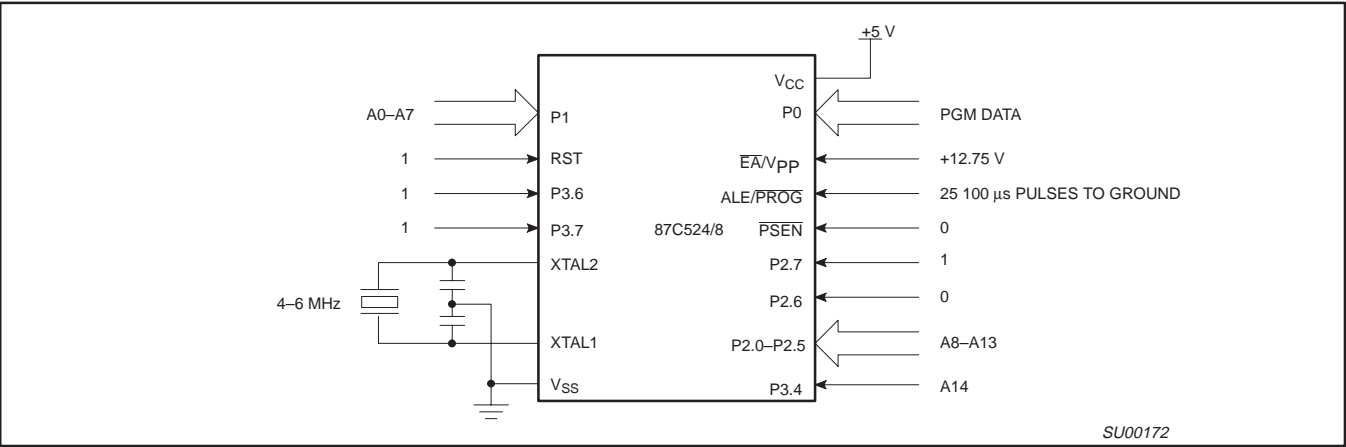
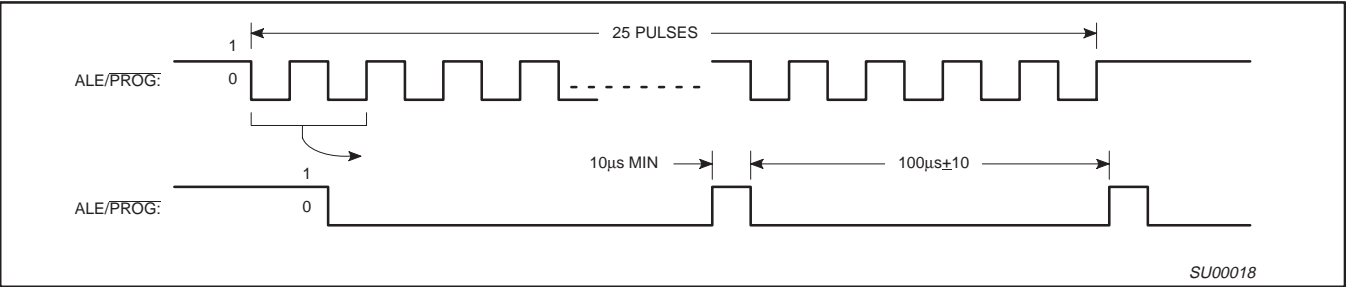
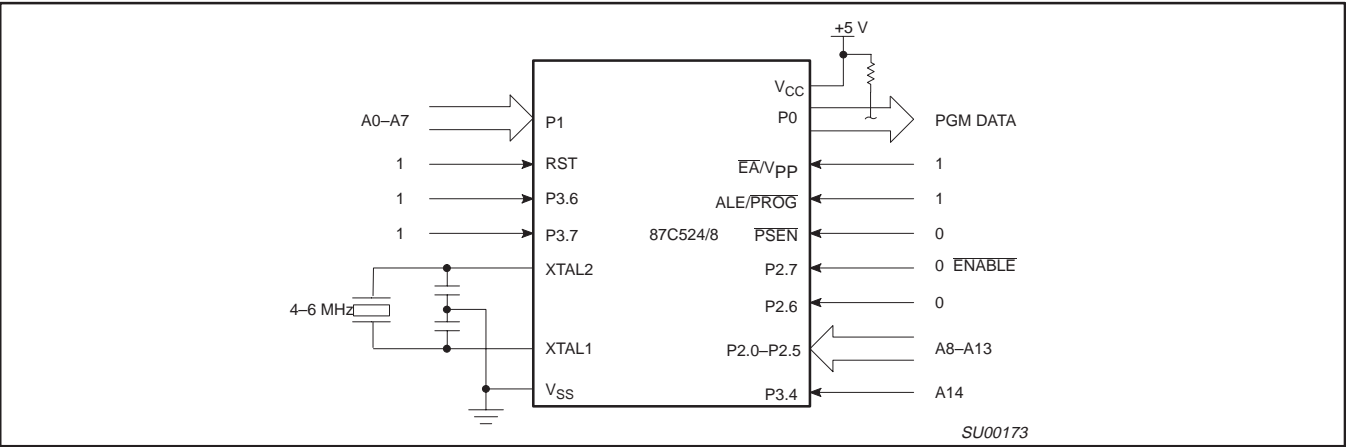

Figure 14. Programming Configuration
Figure 15. PROG Waveform
Figure 16. Program Verification
Table 6 shows the logic levels for reading the signature byte, and for programming the program memory, the encryption table, and the lock bits. The circuit configuration and waveforms for quick-pulse programming are shown in Figures 14 and 15. Figure 16 shows the circuit configuration for normal program memory verification.
The setup for microcontroller quick-pulse programming is shown in Figure 14. Note that the 87C528 is running with a 4 to 6MHz oscillator. The reason the oscillator needs to be running is that the device is executing internal address and program data transfers.
The address of the EPROM location to be programmed is applied to ports 1, 2 and 3, as shown in Figure 14. The code byte to be programmed into that location is applied to port 0. RST, PSEN and pins of ports 2 and 3 specified in Table 6 are held at the 'Program Code Data' levels indicated in Table 6. The ALE/PROG is pulsed low 25 times as shown in Figure 15.
If lock bit 2 has not been programmed, the on-chip program memory can be read out for program verification. The address of the program memory locations to be read is applied to ports 1, 2 and 3 as shown in Figure 16. The other pins are held at the 'Verify Code Data' levels indicated in Table 6. The contents of the address location will be emitted on port 0. External pull ups are required on port 0 for this operation.
The setup for microcontroller quick-pulse programming is shown in Figure 14. Note that the 87C524 is running with a 4 to 6 MHz oscillator. The reason the oscillator needs to be running is that the device is executing internal address and program data transfers.
The address of the EPROM location to be programmed is applied to ports 1, 2 and 3, as shown in Figure 14. The code byte to be programmed into that location is applied to port 0. RST, \overline{PSEN} and pins of ports 2 and 3 specified in Table 6 are held at the 'Program Code Data' levels indicated in Table 6. The ALE/PROG is pulsed low 25 times as shown in Figure 15.
in Figure 16. The other pins are held at the 'Verify Code Data' levels indicated in Table 6. The contents of the address location will be emitted on port 0. External pull-ups are required on port 0 for this operation.
- * FOR PROGRAMMING VERIFICATION SEE FIGURE 14.
- FOR VERIFICATION CONDITIONS SEE FIGURE 16.